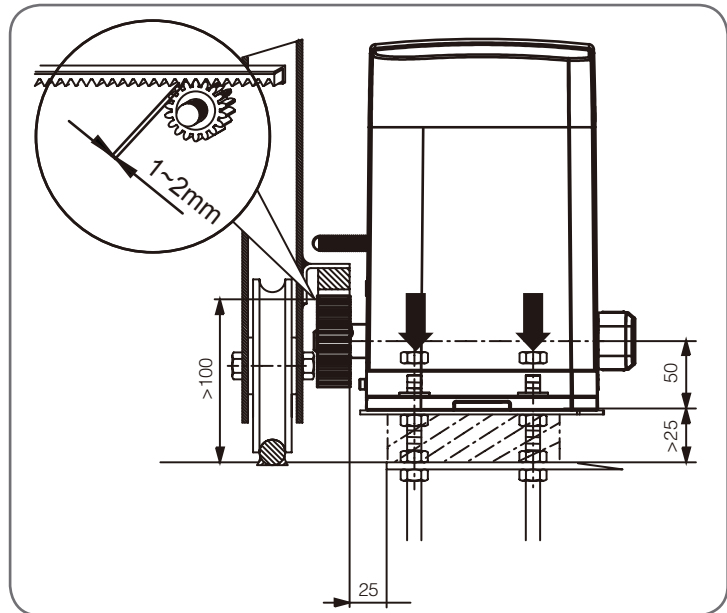
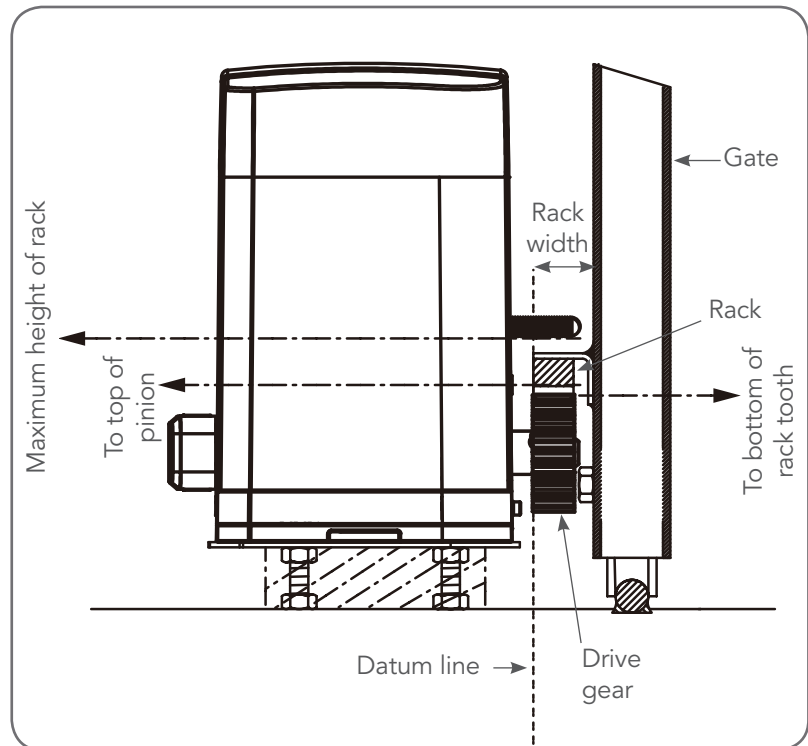

Fig 4.1
Fig 5.1
- Prior to mounting the NeoSlider™, determine the distance from the gate to the outer edge of the rack (i.e. the rack width) and to the datum line (see Fig. 4.1 and Fig. 5.1). If using an Automatic Technology plastic rack, the width is 40mm. If using a different brand of rack, please ensure it is Module 4 and then confirm the width, as this will vary.
- Mark a line parallel to the face of the gate for the mounting holes. The distance from the gate is determined by the formula $(38\text{mm} + \text{Rack Width})$. Therefore, if using an Automatic Technology rack, the distance is 78mm. Otherwise, if using a non-Automatic Technology rack, add your rack width (and spacers if required) to the 38mm (see Fig. 4.1).
- Manually open the gate and place a rack section to mesh with the pinion gear on the Drive Unit. Mark the top of the rack. Move the gate and mark the rack for the entire length of the gate (**Fig. 5.1**).